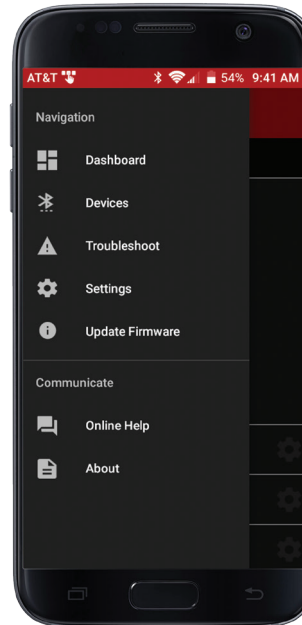

fig. D.3
1. The Navigation/Communicate screen (Fig. D.3) has these options: